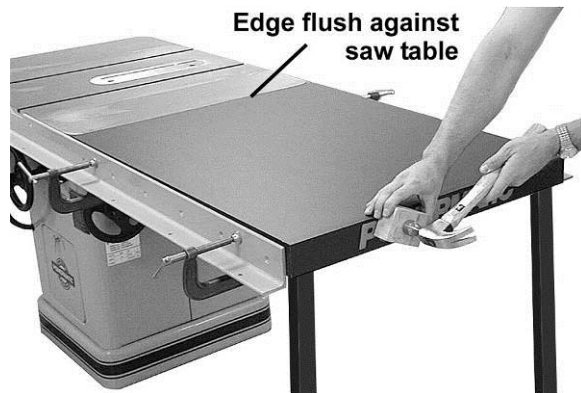

Figure 7
1. Place the extension table between the rails and up against the saw table, leaving the extension table raised just slightly above the saw table. Clamp the extension table to the front and back rails as shown in Figure 7. Clamping pressure should be enough to secure the table yet allow minor adjustments.